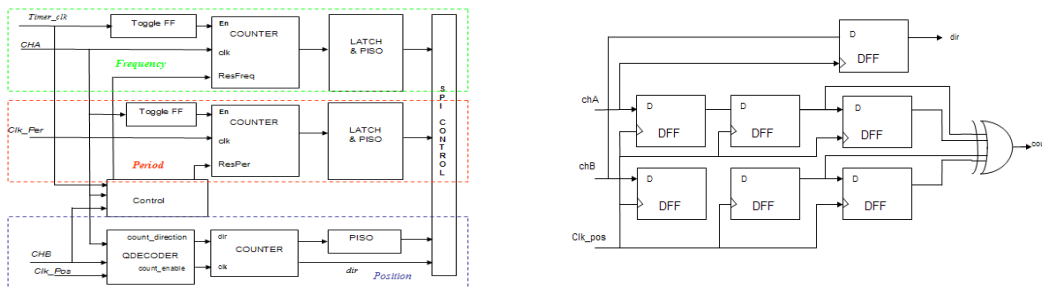

Fig.11. (a) Digital Position & Speed Module (b) QDECODER
The green section of Fig.11 shows the frequency counting speed implementation. Here, a fixed time pulse (*Timer_clk*) is applied to a toggle flip flop which is connected to an enable input (*En*) of a counter (16-bits). This ensures that counting is only possible when the *En* is active. Channel A, (*CHA or pin 1*), of the encoder is applied to the clock input. The counter counts the number of pulses of the *CHA* within the window when *En* is active. The final value of the counter is latched and through PISO (parallel-in-serial-output) register is transferred to the supervisory microprocessor.
The implementation for the period counting speed measurement technique is similar to the frequency method except that the input to the toggle flip flop is channel A (CHA) and a pulse (Clk_Per) is applied to the clock input of a 16-bits counter (red section in Fig.11(a)). The counter counts the number of Clk_Per pulses that occur between successive encoder pulses. Everything that applies to VFC applies here except that LATCH_PER_SX, RESET_PER_SX, CS_PER are used in this case. MISO is still the output of the PISO.
c). *Position Measurement*: Position measurement involves counting the encoder pulses to estimate the position of the encoder (blue section of Fig.11 (a)). The encoder signals are Quadrature signals- two signals generated with a 90 degrees phase difference. The QDECODER circuit is sometimes called a "4x decoder" because it counts all the transitions of the quadrature inputs. A 16-bit UP counter is used to count the 4x decoded output. QDECODER also provides the direction of motor rotation (pin 4). NB: the counter is an UP counter and 4x decoded signal is actually